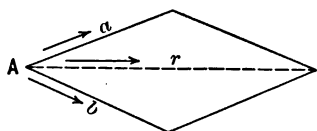
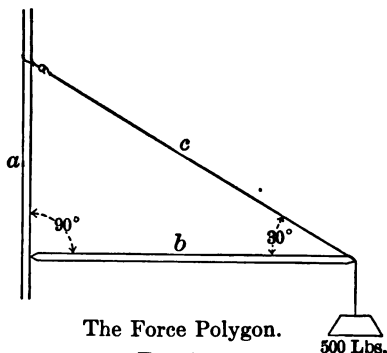

FIG. 22. — Parallelogram of Forces.
FIG. 27.
A force may be represented by a straight line, the direction being the direction of the force and the length being the force drawn to scale. If two forces (a) and (b) act on a body at A as in Fig. 22, draw the line in the direction of the forces and lay them off to some convenient scale. Complete the parallelogram as in 22, and the diagonal represents the resultant force both in direction and size. A third
1. Neglecting weight of b , Fig. 27, what is the tension on c ? Compare with Fig. 22.
2. If in the Fig. 27 the weight of b be 50 pounds, how much does it add to the tension of c ?
Only a stick, string, and spring balance required to illustrate several important applications of physics in trusses, hoisting cranes, etc. Every student of physics should experiment with several combinations, and apply his results to many local illustrations. See Figs. 22 and 23.